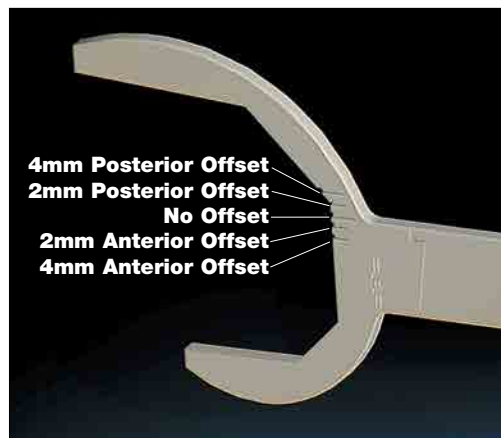

Figure 13
- Size femur with either femoral sizing templates, or femoral cutting guide (Scribe lines on medial & lateral sides of cutting guide indicates M/L width of implant. Scribe line on anterior tab indicates anterior flange location on the implant.) (**Figure 13**)